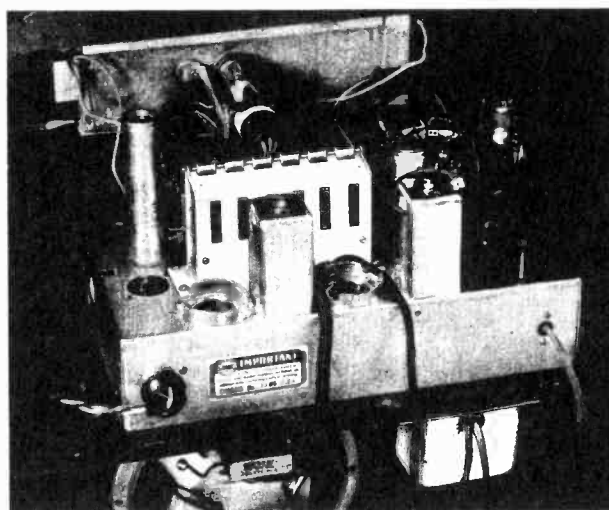

FIG. 4
11. Referring to Fig. 4, mount the relay to the underside of the chassis shelf, using the two wood screws and two spacer washers supplied. On mantle models mount the relay beside the radio chassis. Place the spacer washers between the base of the Relay Assembly and the cabinet shelf, passing the wood screws through the holes in the spacer washers. Arrange the wire connector cables to the Magnet Assembly and Relay Assembly beside the tube socket base as shown in Fig. 4 and put the four tubes which were removed back into their respective sockets. CAUTION—be sure to put the tubes back into the proper sockets.